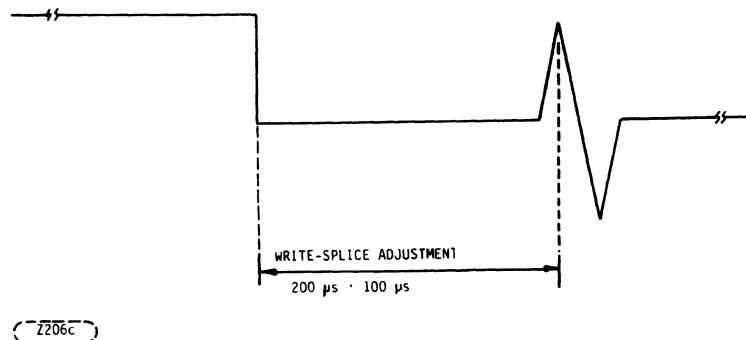
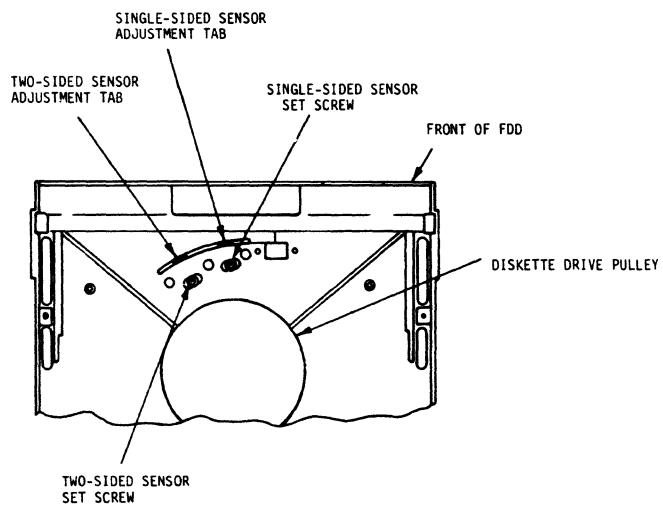

FIGURE 6-4A, WRITE-SPICE-TIMING
FIGURE 6-4B, SINGLE-AND TWO-SIDED SENSOR ADJUSTMENT MEANS
- e. Adjust the time of the write-splice bit until it measures per 200μ s \pm 100μ s. Refer to Figure 6-4a to adjust the time, loosen the single-sided sensor set screw holding the (single-sided-sensor) phototransistor located on the bottom of the chassis toward the front of the unit, (Figure 6-4b). Using the adjustment tab protruding through the casting, move the phototransistor until the specification is met. Tighten the set screw while observing the scope signal. Verify that the adjustment did not change.